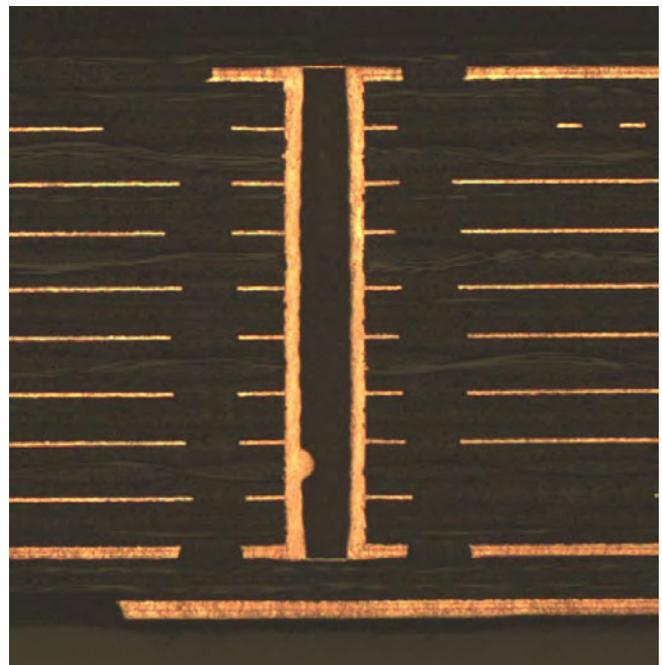

Figure 4: Type VII buried via, filled and capped.
- **Type VII**—Filled and Capped: A Type V via with a secondary metallized coating covering the via (Figure 4)